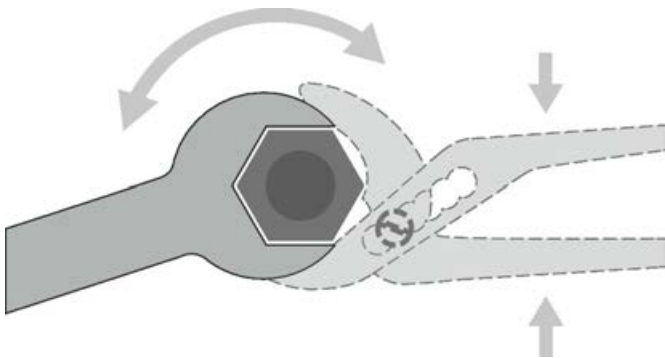

Fig. 33: Using water pump pliers to counter the tightening force
- ▶ Hold the threaded pipe tail of the heat exchanger with water pump pliers (Fig. 33 /2).
- ▶ Hold the threaded pipe tail with the pliers while you use a spanner (hexagonal profile, Fig. 33 /1) to connect the heat exchanger to the pipework (pipework by others).